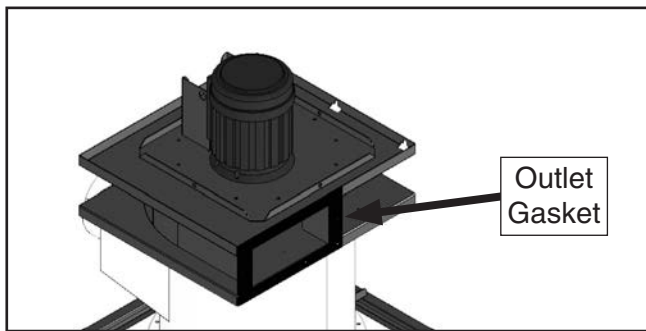

Figure 23. Outlet gasket positioned on blower housing opening.
26. Position rubber gasket around opening on blower housing (see **Figure 23**).